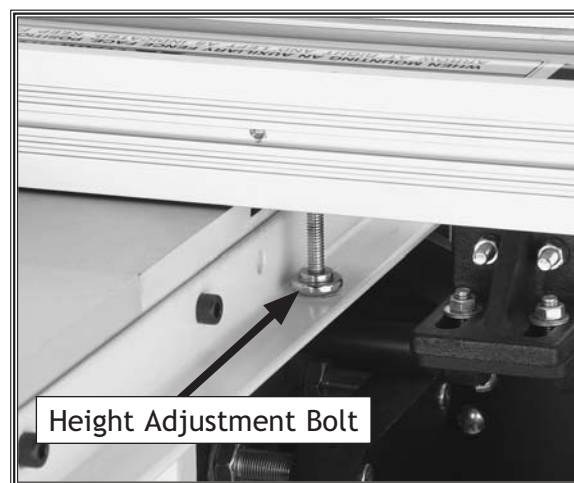

Figure 26. Height adjustment bolt.
3. Check to see that the fence clears the table surface throughout its range of travel, and increase or decrease the height between the fence and table by adjusting the bolt shown in **Figure 26**.